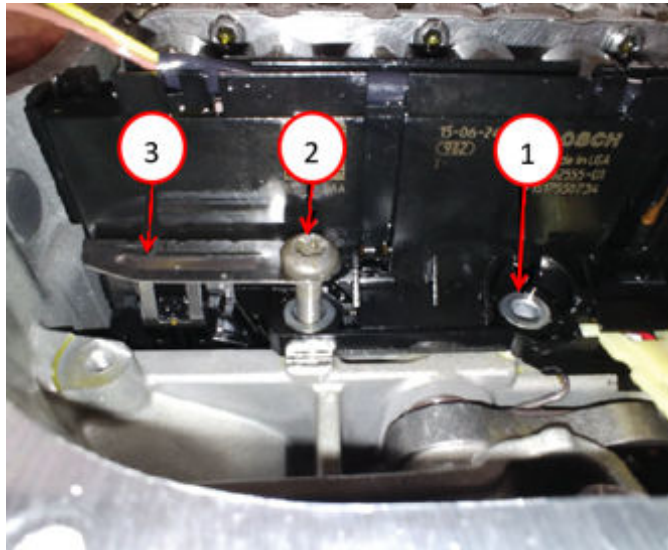

Fig. 9
15. Remove the Output Speed Sensor bolt and gently lift the Output Speed Sensor out from the case Fig. 9.